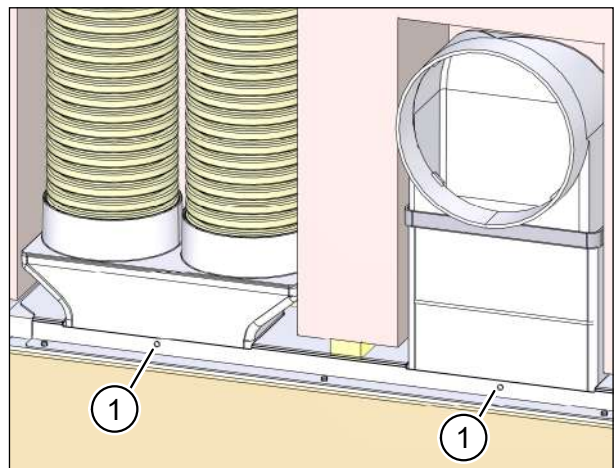

Fig. 30: Fixing the connections for flat ductwork / flexible pipe to the wall box
There are two holes (item 1 in Fig. 30) in the plastering trim for fixing the flat ductwork or flexible pipe connections to the wall box with blind rivets. These holes will also need to be drilled in the flat ductwork or flexible pipe connections.
- ▶ Use the 3 mm drill bit to drill through the holes in the plastering trim (item 1 in Fig. 30) and into the flat ductwork or flexible pipe connections.